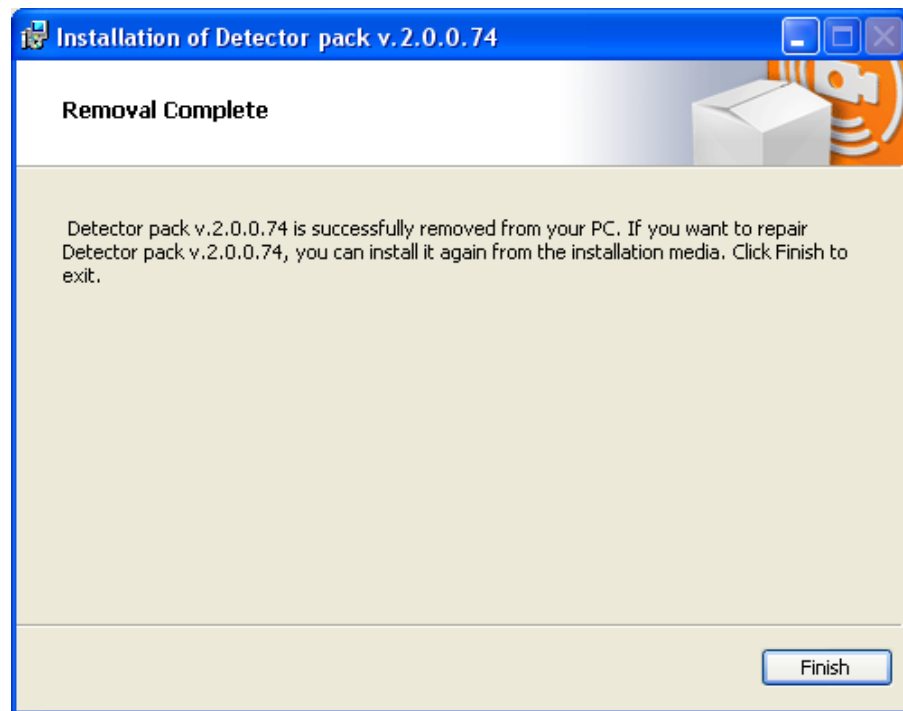

Fig. 5.2—15 Detector pack removal complete window
5. Click **Finish** (Fig. 5.2—15).